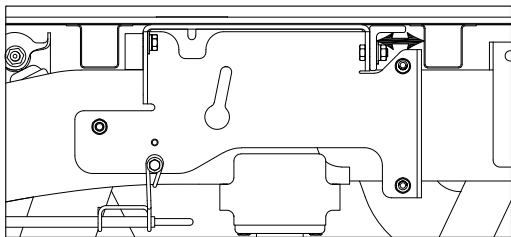

Figure D1: Driver side of truck frame inside the wheel well.
2. **Square the hitch.** With a tape measure, check the distance between the Turnoverball hitch and the nearest bed crossmember. The distance between the hitch and the crossmember should be consistent on the passenger side and the driver side of the hitch, see Figure D1. Adjust hitch until the hitch and the bed crossmember are the same from side to side.